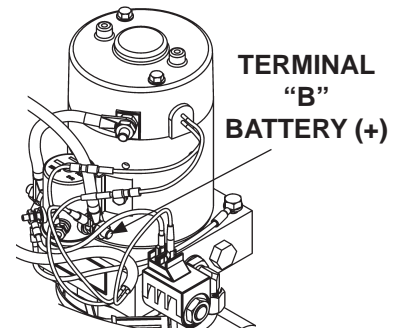

FIG. 71-1
1. Use voltmeter to verify power is being supplied to solenoid terminal "B". Recharge the battery if voltmeter displays less than 12.6 volts (**FIG. 71-1**).